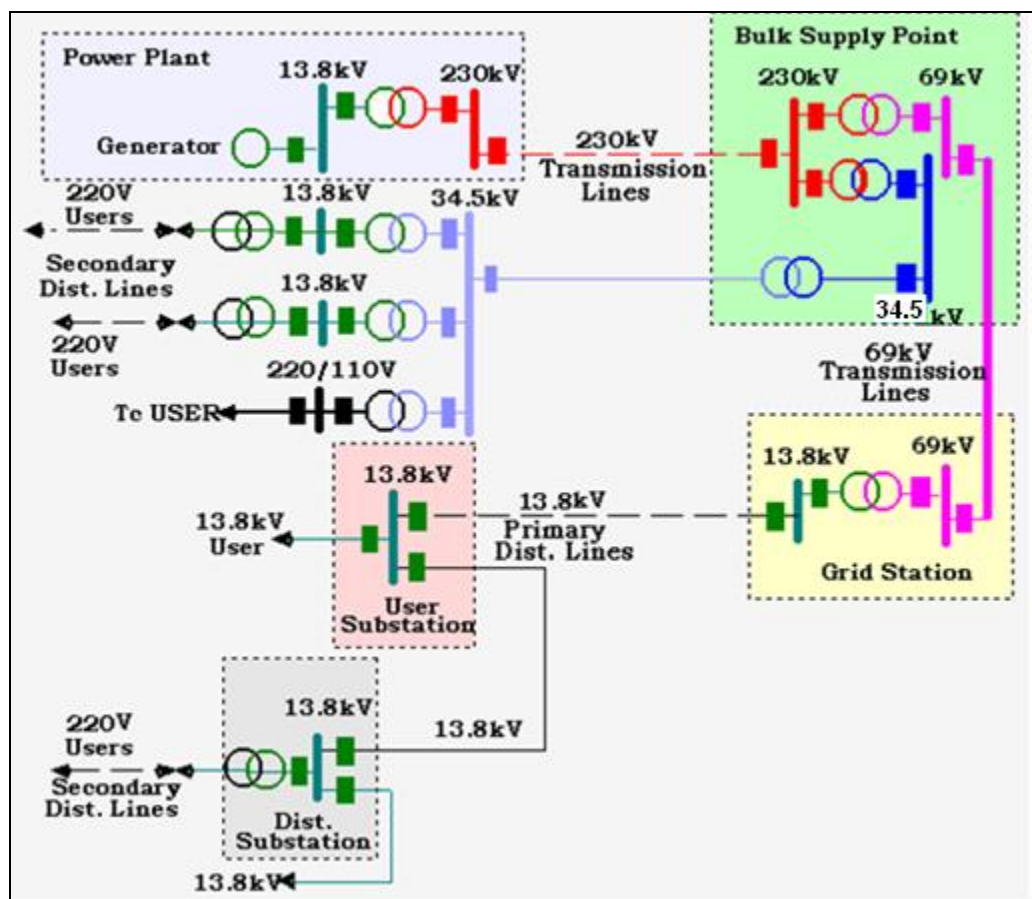

Fig. 4.1-8 Power Network Stages and Voltage Level
SEC transmits large amounts of power not only to users, but also between plants. SEC uses high voltage transmission lines. SEC uses 380 kV (kilo-Volts), 230 kV, 115 kV and 69 kV transmission lines between **Bulk Supply Point (BSP)** and **Grid Station (GS)**. Fig. 4.1-8 shows a part of Single Line Diagram for SEC Network.